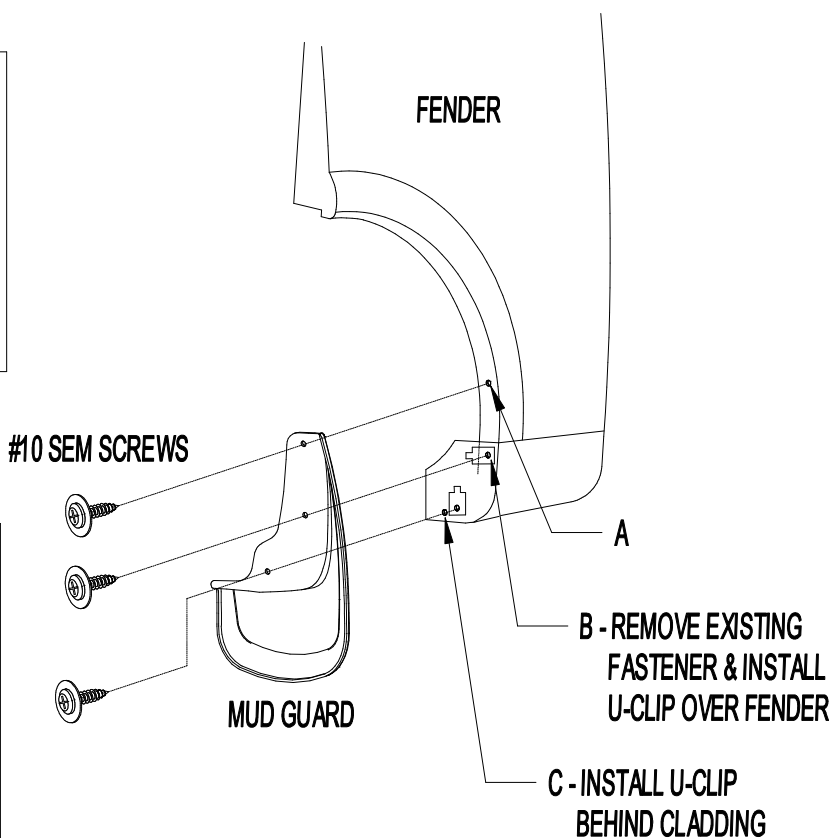

Figure 1
2. Remove existing fastener from location B and install a U-clip over sheet metal and align with existing hole (Figures 1 and 2).
4. Using mud guard as a template, mark, drill 1/8 hole and install #10 SEM screw at location A (Figure 1).